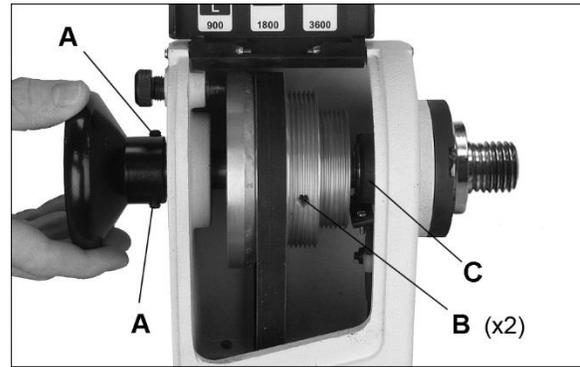

Figure 29
Referring to Figures 29 through 32:
- that spindle sensor collar (C, Figure 29) is positioned over the sensor before tightening set screw.